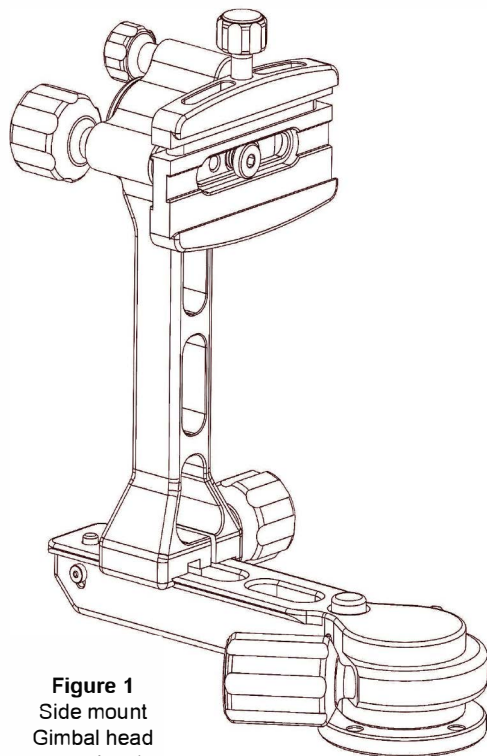

Figure 1
Step 4 Locate the $\frac{3}{8}$ " tapped hole (D-4T). Now re-attach the quick release clamp with the $\frac{3}{8}$ " mounting screw (A-1) that was removed in step 1, **making sure that the quick release channel (D-4C) mates to the gimbal swivel lug (D-4L)** and tighten with the $\frac{3}{16}$ " T-handle wrench. Final assembly will look like Figure 1.